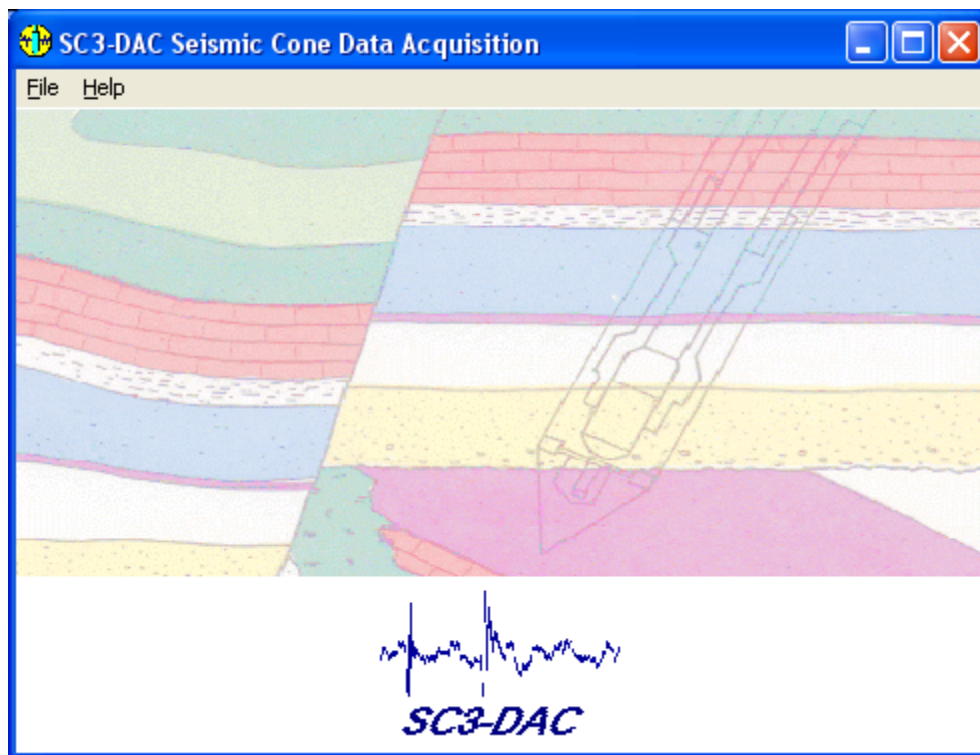

Figure 1: Main Menu in SC3-DAC™
SC3-DAC™ is a Windows® program that facilitates the data acquisition of triaxial seismic cone (SC) time series data. The main menu of SC3-DAC™, as illustrated in Figure 1, has two options:
The main menu shown in Figure 1 includes a *Help* option that includes the following: